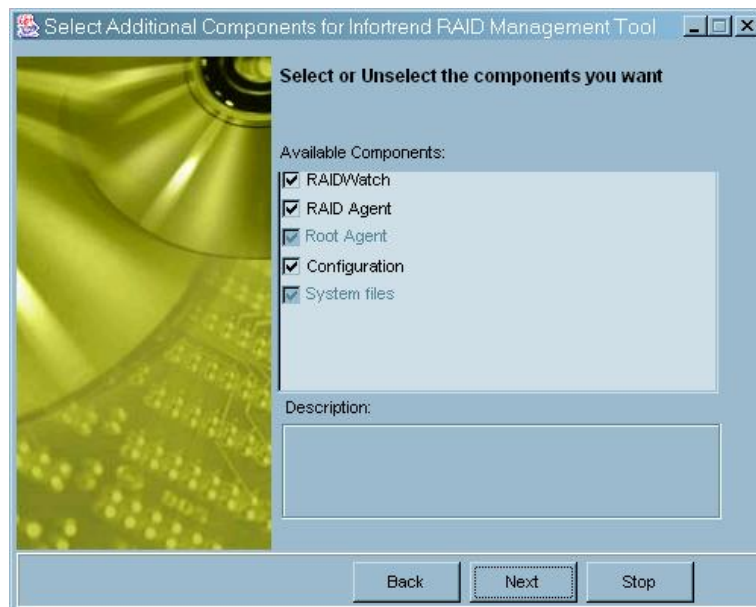
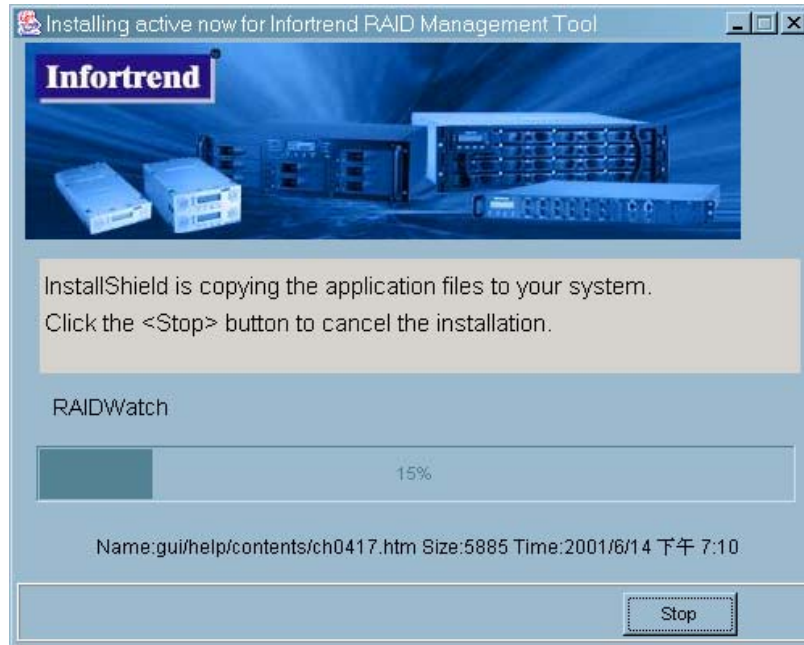

Figure 2-7: Optional Components
Figure 2-8: Installing Active
Step 5. If the “Next” button from *Figure 2-7* was selected, the Install Active window shown in *Figure 2-8* will appear. If you wish to stop the installation procedure, then click the “Stop” button.